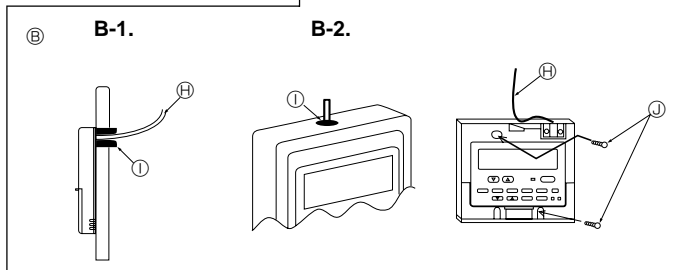

Fig. 6-3
(2) Seal the service entrance for the remote controller cord with putty to prevent possible invasion of dew drops, water, cockroaches or worms. (Fig. 6-3)
##### [Fig.6-3]